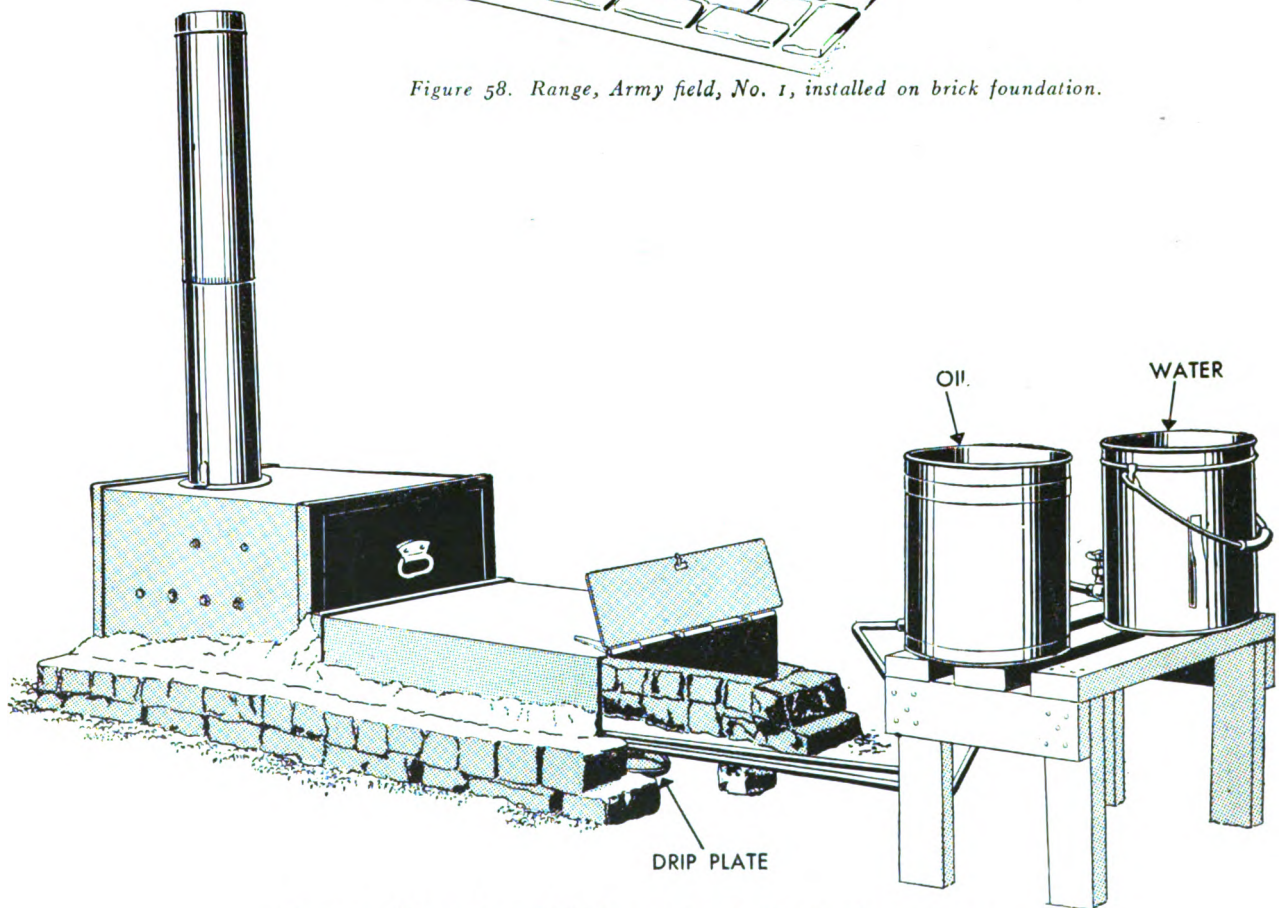

Figure 59. Range, Army field, No. 2 equipped with oil-and-water burner.
**b. USING WOOD OR COAL.** (1) Use short, dry wood for firing and keep the fire well toward the firing end (front end) of the boiling plate. Do not overload the range with wood, but keep an even-burning fire.
(2) Never use coal when wood is obtainable. Even when coal is used, add some wood if possible. Continued use of coal alone will soon burn the range out.
**c. USING OIL-AND-WATER BURNER (DODSON BURNER.** (See figs. 59 and 60). (1) In the event
that a supply of oil is available, an oil-and-water burner may be improvised. (See fig. 59.) Crank-case oil or other waste oil may be utilized.
(b) Attach a piece of tubing fitted with a valve to the lower part of each drum. Bend the tubes as illustrated in figure 59 and extend them under the range to the point at which you want the flame.